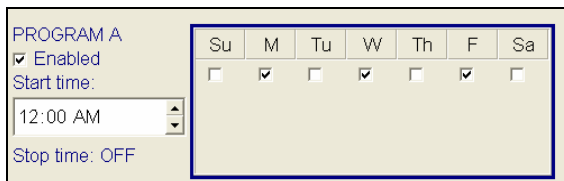

Figure 16.1.9B
- Check a box for each day of the week that you want the program to irrigate on (Figure 16.1.9B).